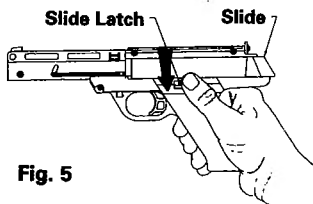

Fig. 5
- Release the slide. The slide latch is located on the left side of the air pistol. Release the catch by pushing down on the slide latch. The slide will snap back approximately 1/8" when released. (Fig 5)